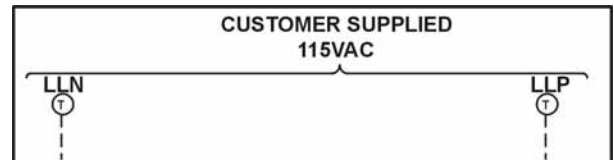

Figure 1-4
- An independent, single-phase supply for the cab lighting circuit is the first circuit common to all drive types. [See Figure 1-4.]